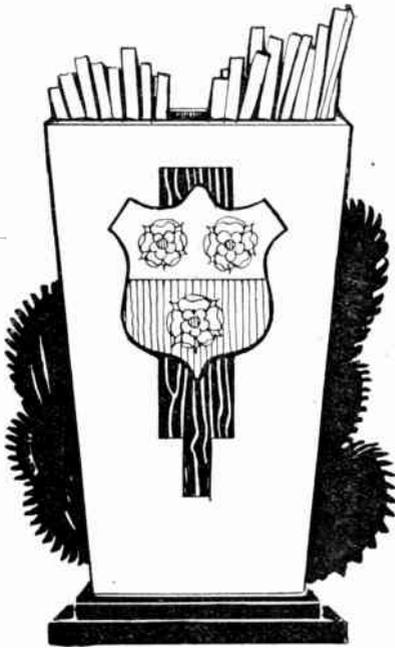
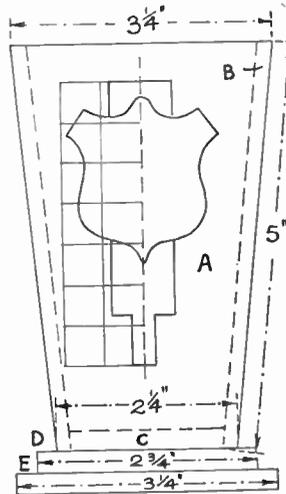

Fig. 1—The first design
Fig. 2—Measurements for the first article
We will deal first with the holder shown at Fig. 1. This has two shaped pieces—front and back, as (A) in Fig. 2, the measurements being clearly given for marking out on the wood or on to a sheet of paper. Note all wood is $\frac{1}{8}$ in. thick excepting the base which is $\frac{1}{2}$ in. thick. Note from the diagram that the two sides (B) go in between the front and back. These side pieces are plain oblongs measuring 5 ins. by $1\frac{1}{2}$ ins. When the four pieces are cut, glue them together, making neatly fitting butt joints, and then rub down all four side surfaces so as to make the joints almost invisible.
front of the box consists of two overlays, the back one taking the form of the complete outline, the front one being just the shield. The enlargement for the overlays can be made by drawing out on paper the fourteen $\frac{1}{2}$ in. squares shown in Fig. 2 and following the outline given through each square. The half outline should be traced and transferred to the wood which should be $\frac{1}{8}$ in. in thickness. A town arms or crest could be painted on the shield and afterwards given a coat of clear varnish. The back overlay may be darkened with stain to show up the shield. The finish to the wood should suit the kind of wood used. Oak may be stained and waxed, or a white wood just plain varnished.
squared diagram (Fig. 2), ignoring the top right-hand shape *a*. Now trace off on to thin card, various templates. These are (1) the complete shape *b, c, d, e*; (2) *b, e, f*; (3) complete shape *g*; (4) complete shape *h, j, k, l, m, n*; (5) *o, j, p, m*; (6) *p, q*. Other shapes may be traced off if required. It is an advantage to have two templates for each part: the main profile shape, as at *g* and such half-templates as at *a* (which represents on a smaller scale half of shape *o, j, p, m*). The use of these templates will readily be apparent when modelling starts.